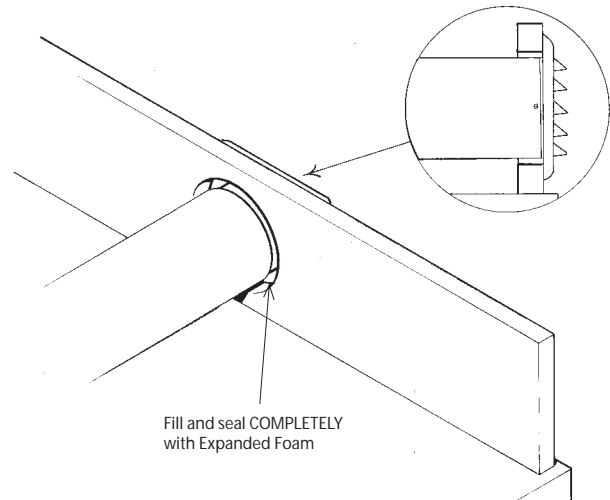

Figure 13
Determine outlet locations. Cut correct size hole. Cut a short piece of 6" round duct to connect to the fresh air inlet and exhaust air outlet hoods. For Model \*ERVR100 or \*ERVR200. Use 8" round duct for Model \*ERVR300. Secure duct to inlet and outlet hood duct collars with installer supplied fasteners. Install hood and ductwork through penetration. See figure 13 for sealing duct penetration and duct collar.
3. The two wires from the ERV should be attached to the 'C' and 'R' positions on the terminal block on the back of the PT Control. See Figure 13.